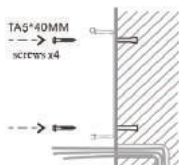

Figure 3-4
A. Align the screw holes of the wall bracket with the holes in the wall and fix them to the wall with the TA5*40MM screws, as shown in Figure 3-4.